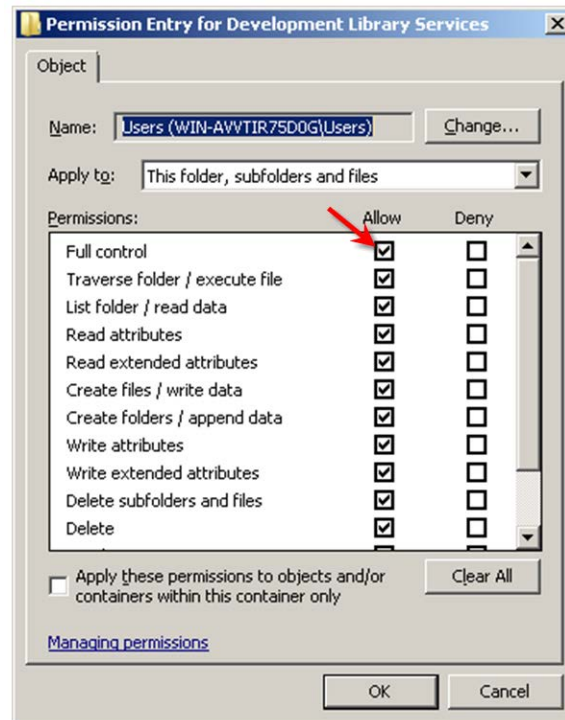

Figure 2-19: Selecting Permission Options
6. Under *Full Control*, select **Allow**, as shown in Figure 2-19.